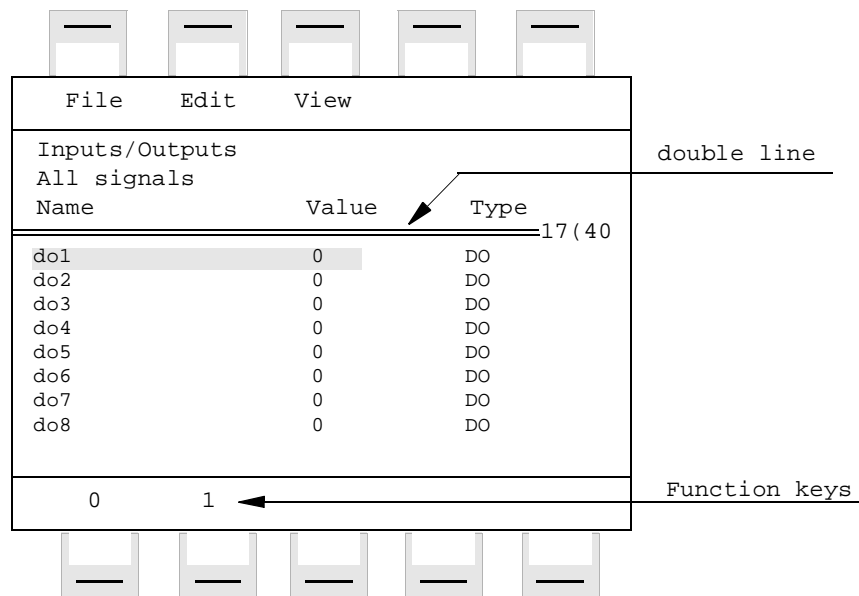

Figure 12 A window with two parts.
4. Windows are sometimes divided in two by a double line (see Figure 12).
5. Press the NextPage key until an output is shown on the first line, two function keys will be displayed (see Figure 12).